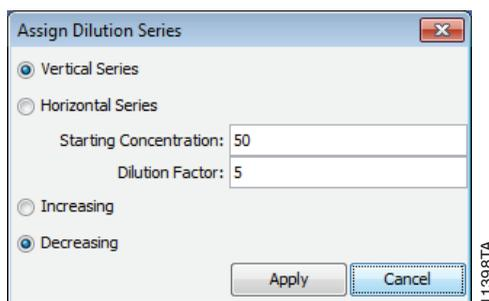

Figure 36. The Assign Dilution Series window.
- c. Confirm that the series selected is “Vertical Series” and the series is “Decreasing”. Enter 50 for the starting concentration and 5 for the dilution factor. See Figure 36.